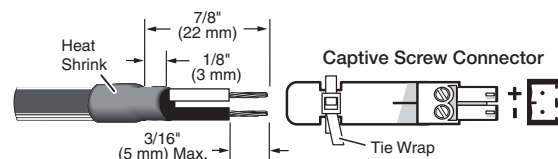

Figure 9. Wiring the Power Connector for the Rack Mountable Models
- **Rack mountable models** — The USB Extender Plus standard and HID Only models are provided with power supplies to which 2-pole captive screw plugs are wired. Plug these connectors into the rear panel captive screw connectors of the transmitter and receiver. If it is necessary to wire a power supply to its connector, see figure 9.